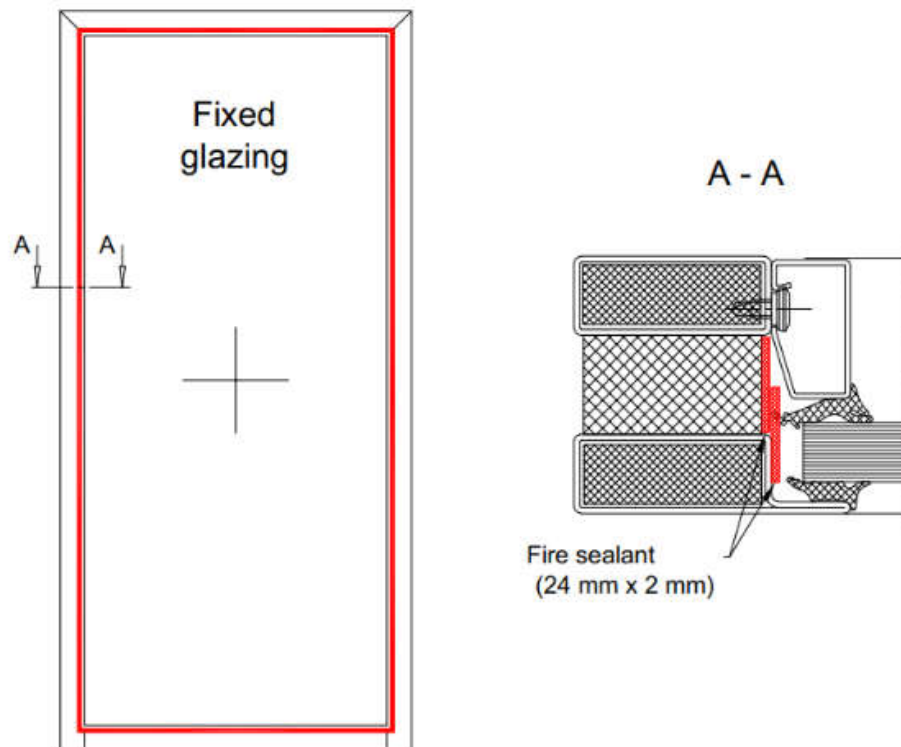

Figure 7 Installation of fire sealant
7. Clean the dust and dirt from the glazing opening with cleaning agent and cleaning paper. Install two layers of fire sealant (24 mm x 2 mm) (Figure 7).